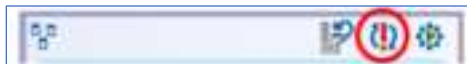

Figure 88: Apply Button with Pending Changes
- When the Apply button contains a red exclamation point, as shown in Figure 88, there are pending changes. Clicking on this icon applies any pending changes in that panel only. Pending changes in other panels are not applied.
If there are pending changes, a Revert button displays to the left of the Apply button, also shown in Figure 88. Clicking on the Revert button, restores the previous settings to that panel only.